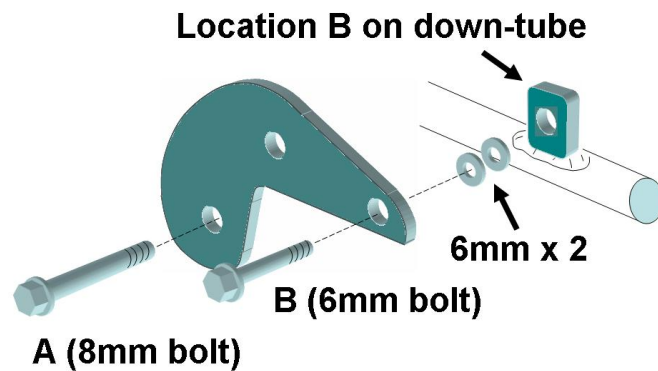

Figure 2
2. Place 6 x 20 mm flange bolt through hole "B" on the Chain Master. Place the two 6mm washers on the bolt as depicted in Figure 2. Hold the bracket in position and rotate the bolt several turns to engage threads.